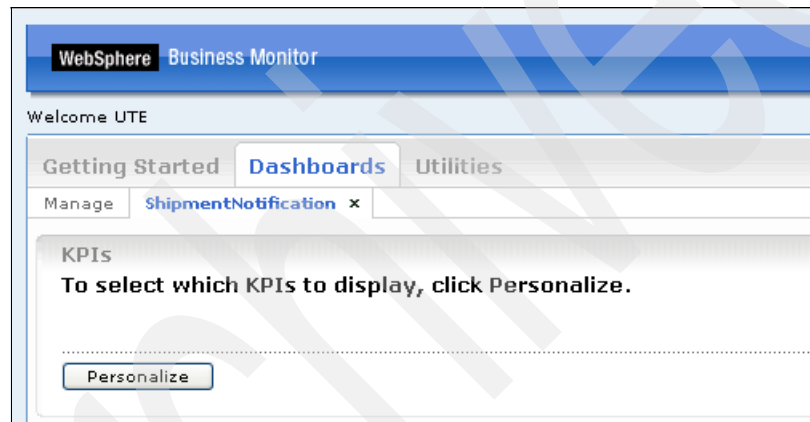

Figure 9-57 Personalizing the KPI
5. Under KPIs (Figure 9-57), click the **Personalize** button.